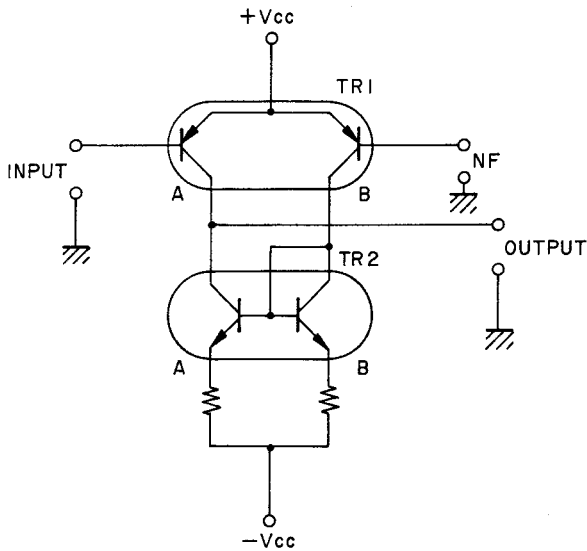

Fig. 4
1. Differential Amplifier and Current Mirror Circuit (Refer to Fig. 4)